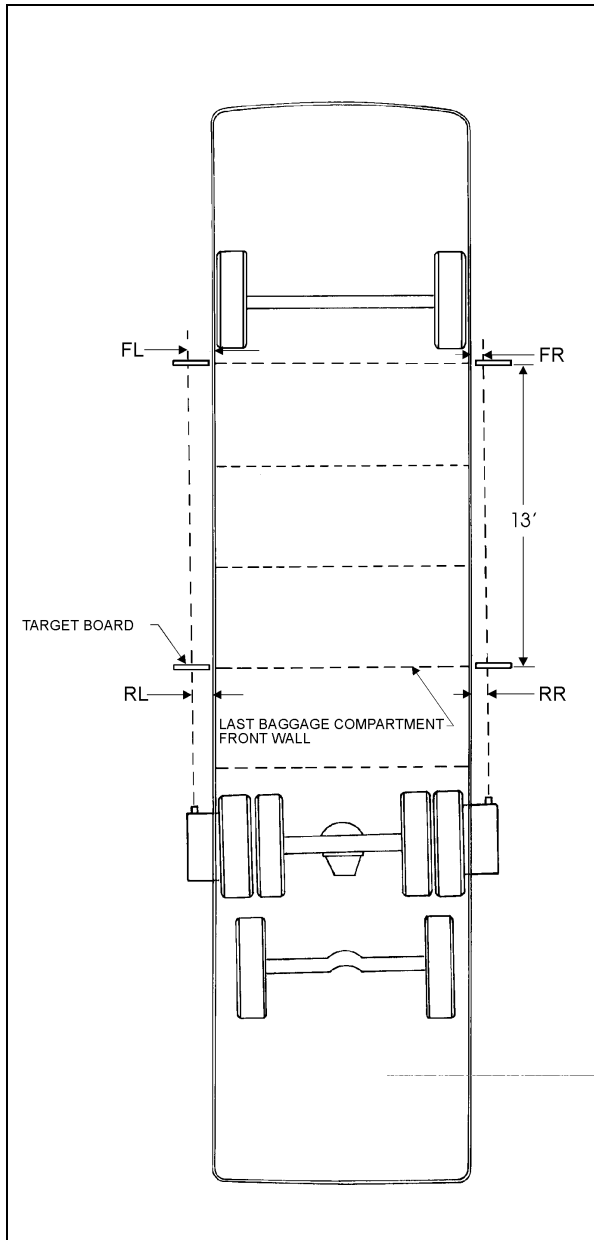

FIGURE 2: DRIVE AXLE ALIGNMENT 11008
4. Install a target board on each side of the vehicle, at the level of the last baggage compartment front wall (see installation in Fig. 2).
Record measurement, then repeat procedure on the other side (Fig. 2). Dimensions obtained are identified RR on rear right-hand side and RL on rear left-hand side.
7. Move the target boards to the front of vehicle, i.e. at 13 feet towards the first target location (Fig. 2) for installation.